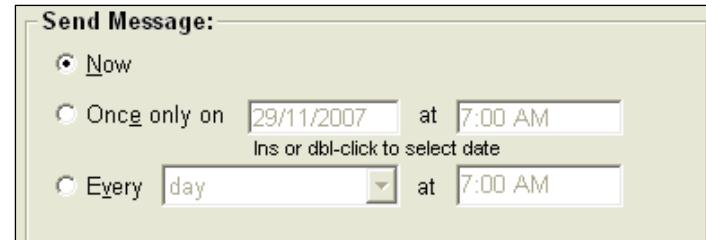

Figure 243
- Select when you would like the message to be displayed. There are three types (as shown in Figure 243):